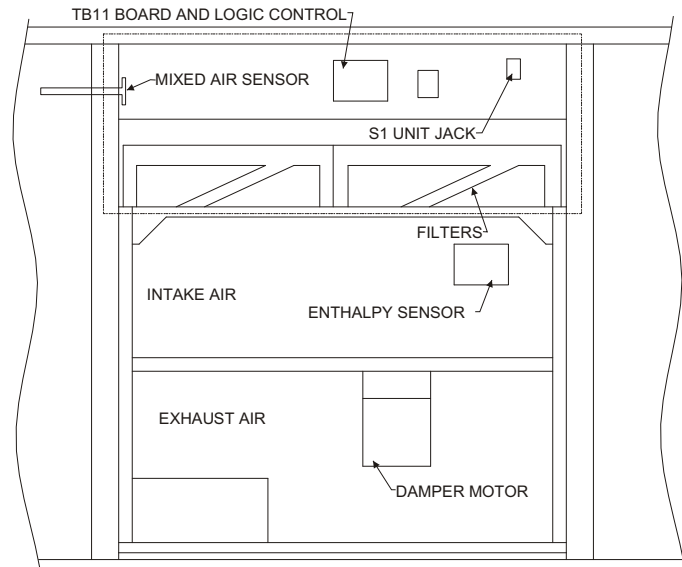

FIGURE 3
5. Locate S1, unit economizer connection and remove the installed dummy plug. **See Figure 3.**
8. Position logic control board in filter access area as shown in **Figure 3**. Secure control board with two #10-16 x 1/2 screws.
9. Insert mixed air sensor tube through the mounting hole into the supply air compartment. Secure using two #10-16 x 1/2 screws. **See Figure 3**.